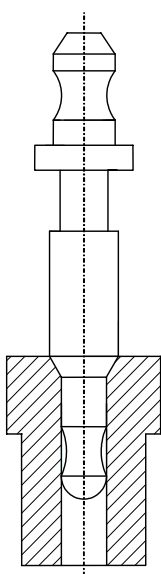

Figure 1
1. Check that the un-assembled product W2222-00 is ready for assembly, as shown in Figure 1.